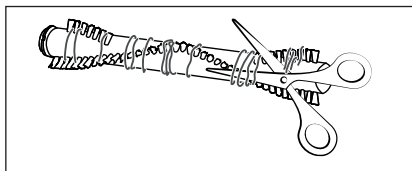

Fig. 28
- 4) Cut threads and hairs along the bristles of the rotary brush **21** with scissors (see Fig. 28). Remove threads and hair from the rotary brush **21**.